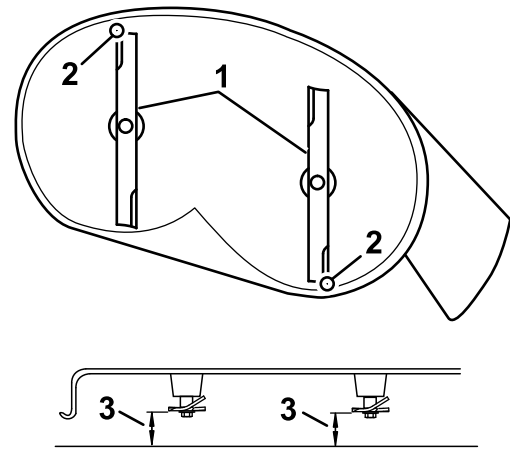

Figure 60
4. Carefully rotate the blades so they are facing front to rear (Figure 60).
5. Measure from the tip of the front blade to the flat surface and the tip of the rear blade to the flat surface (Figure 60).